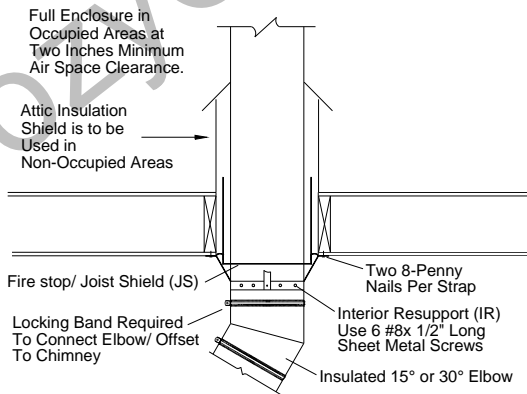

FIG. 9 - INTERIOR RESUPPORT (IR) USE WHEN THE INSTALLATION OF AN INTERIOR RESUPPORT BELOW A LOCKING BAND IS NOT POSSIBLE
The first method is used when an immediate section of chimney above the upper offset passes through a joist area. With the appropriate Fire Stop/Joist Shield (JS) in place, clamp the Interior Resupport support band around the chimney, using two 1/4" x 1/2" long carriage bolts and two 1/2" x 2" long carriage bolts and hex nuts. Attach support band to the pipe with six sheet metal screws as shown in Figure 9.
The Interior Resupport straps are then nailed to the framing joists with at least two 8 penny nails per strap. The maximum length of chimney which may be supported is 18 feet, which includes the offset lengths below, any vertical run to the resupport and the vertical run above the Interior Resupport. It does not include the length below the lower Elbow/ Offset which is supported from below (Figure 9).